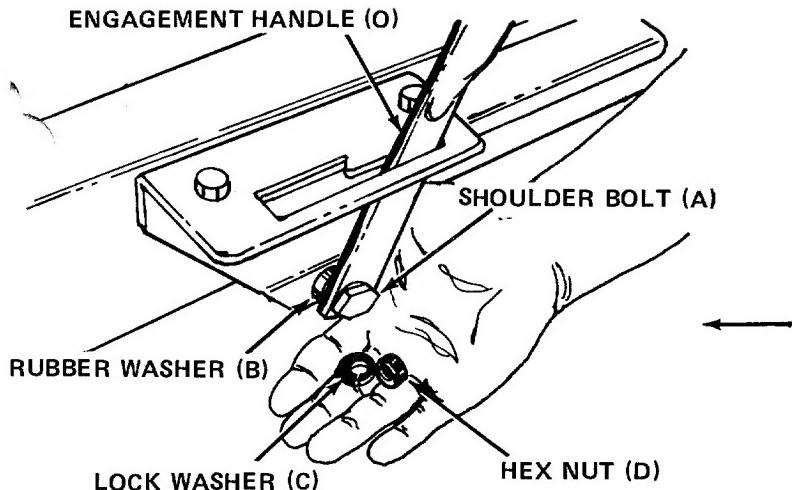

FIGURE 7
- Place the flattened end of the engagement handle (O) down through the slotted bracket beside the beam. Place shoulder bolt (A) through the bottom hole in engagement handle. Place rubber washer (B) on shoulder bolt. Secure to bracket with lock washer (C) and hex nut (D). See figure 7.